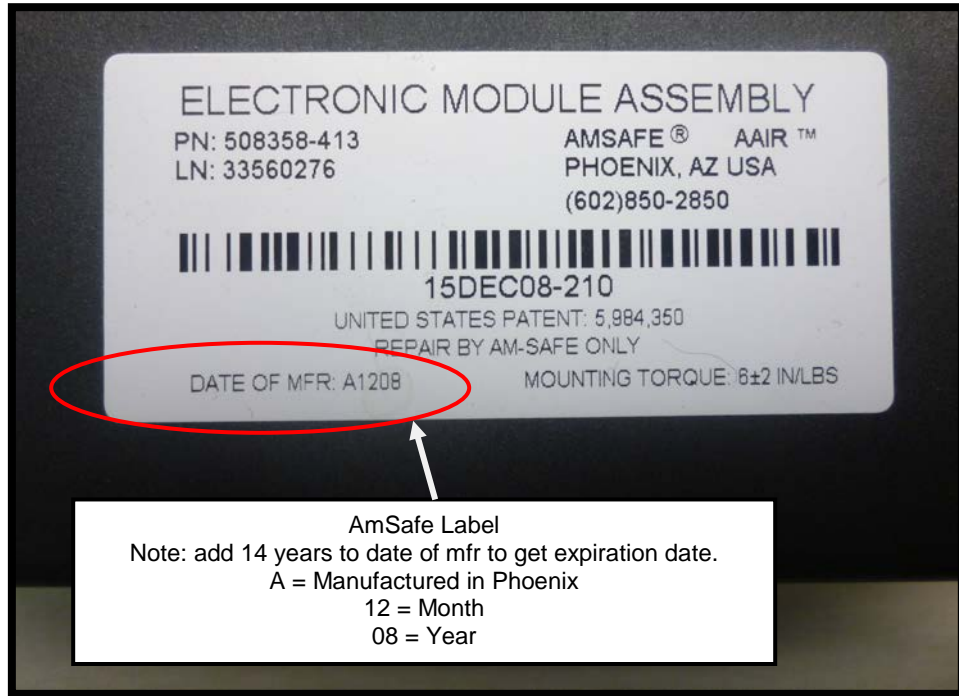

Figure 16: EMA Label
- (1) The EMA shall be stored in cool and dry environments. Acceptable temperature range is -22 to +131°F (-30° to +55°C). The EMA should be protected from sunlight, dust, moisture, and other contamination
- (2) The EMA shall be protected from excessive EMI/RFI/ESD environments.
- (3) Observe all local storage regulations. Store only in a controlled area.
- (4) The maximum continuous storage time for the EMA is 14 years calculated from the AmSafe date of manufacture (Figure 16). At seven years, the EMA should be returned to AmSafe for refurbishment.